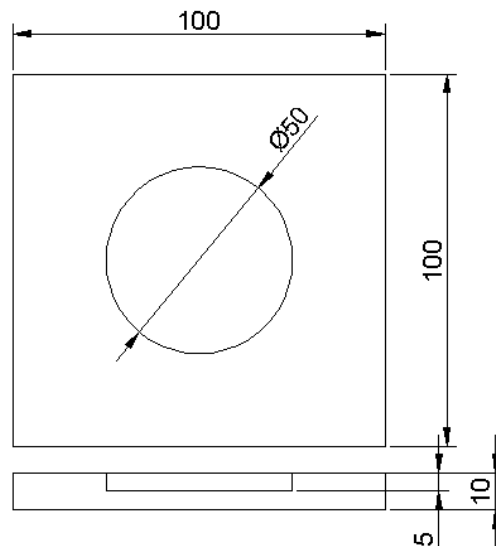

Figure 3
- (c) Write the programme for circular pocketing CNC milling as shown in FIG.3. **07**